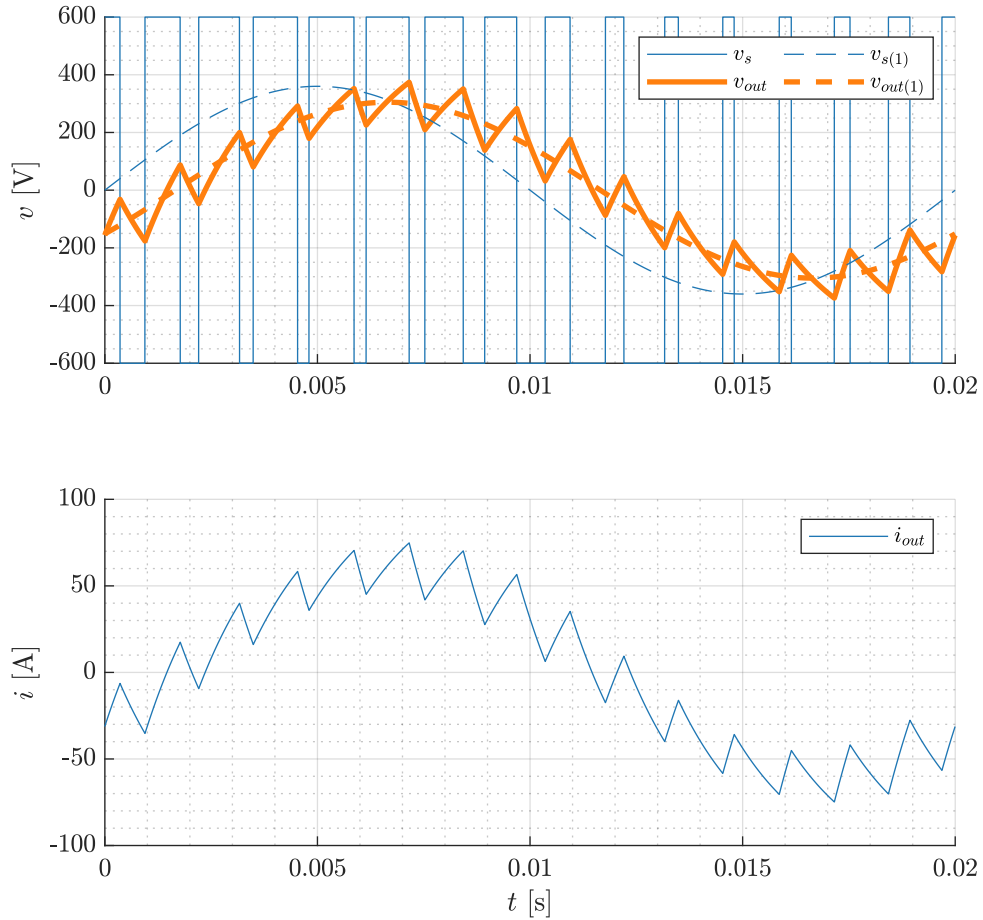

Figure 1: full-bridge inverter output waveforms.
4. The output voltages and current of a single-phase full-bridge inverter are shown in Figure 1.
Counting the number of positive/negative pulses (or, rising/falling edges) for  $v_s$  in Figure 1, gives
where  $f_1$  is the fundamental frequency, and from Figure 1
From Figure 1, during the time interval  $t \in [0.005, 0.006]$  s, the  $v_s = 600$  V and for simplicity the voltage after the inductor  $v_{out}$  is about 275 V. Then the voltage drop across the inductor is
$dt = 0.006 \text{ s} - 0.005 \text{ s}$ , and from Figure 1,  $di = 70 \text{ A} - 38 \text{ A} = 32 \text{ A}$ . Therefore the inductance,  $L$  is